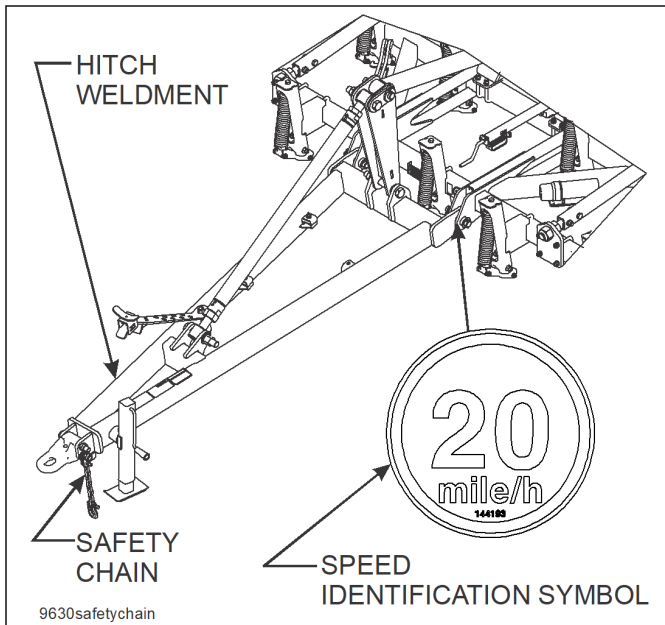

Figure 4-4: Hitch, Speed Identification Symbol, and Safety Chain
2. The Field Cultivator should be transported only by tractor required for field operation. The implement weight should not exceed more than 1.5 times the tractor weight. Unless noted on the implement, maximum transport speed is 20 mph for the implement and is designated on the speed identification symbol located on the front of the implement See Figure 4-4.
8. Attach the safety chain to the tractor drawbar See Figure 4-4. Provide only enough slack in the chain for turning. Do not use an intermediate chain support as the attaching point for the chain on the tractor. Do not pull the implement by the safety chain.